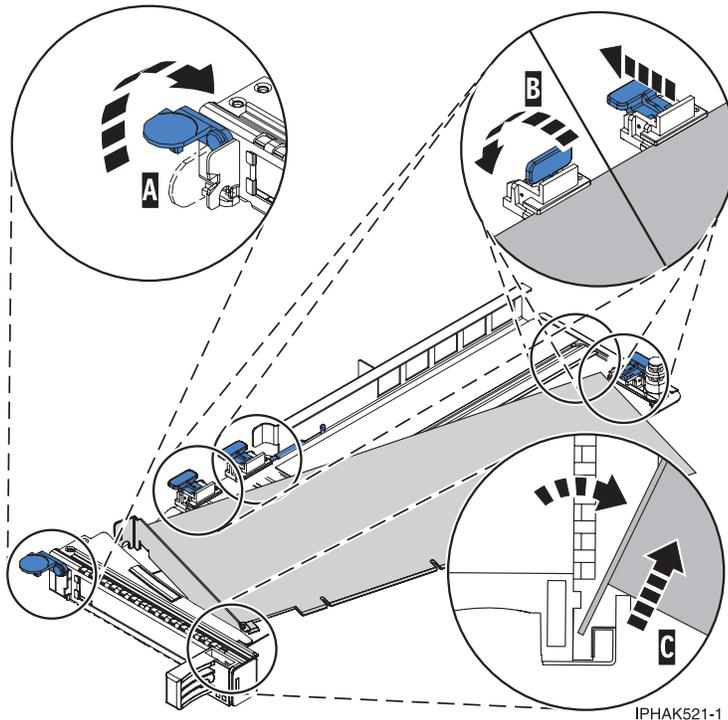

Figure 82. Adapter removed from the PCI adapter cassette
- a. Unlock the adapter retainers by rotating the retainer clip (A) into the horizontal position. See Figure 82.